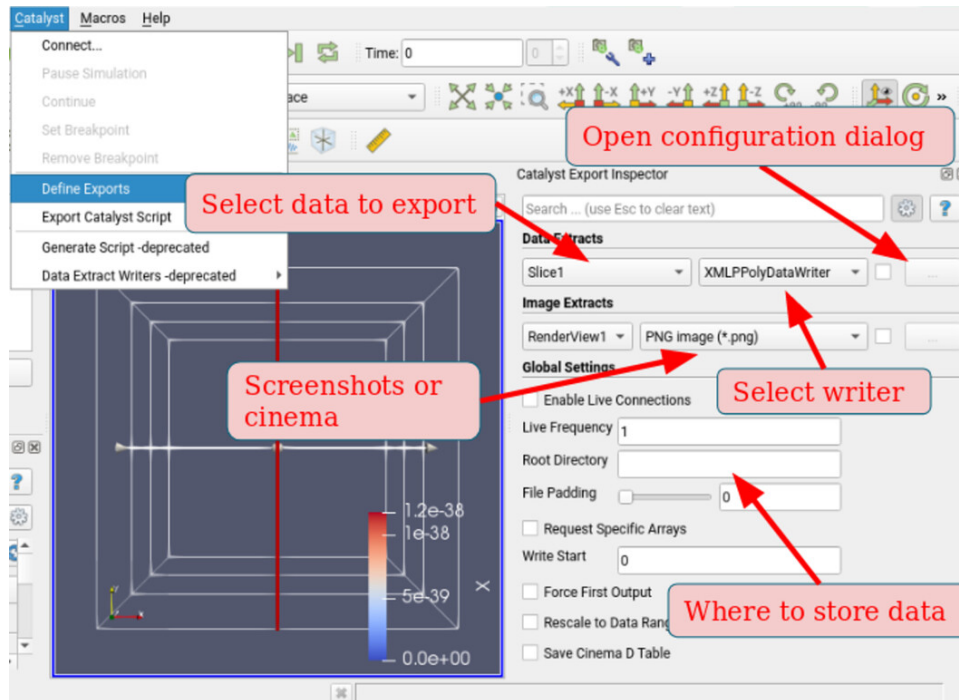

Figure 2.2: The Catalyst panel can be toggled in `View >> Catalyst Export Inspector`.
3. Once the full Catalyst pipeline has been created, it is time to configure the export. This step aims to specify what data must be exported and images produced. This is done through the Catalyst Export Inspector presented in Figure 2.2, available from  Define Export. This panel contains three sections: